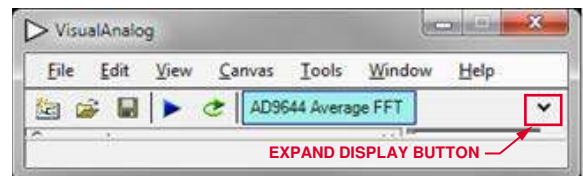
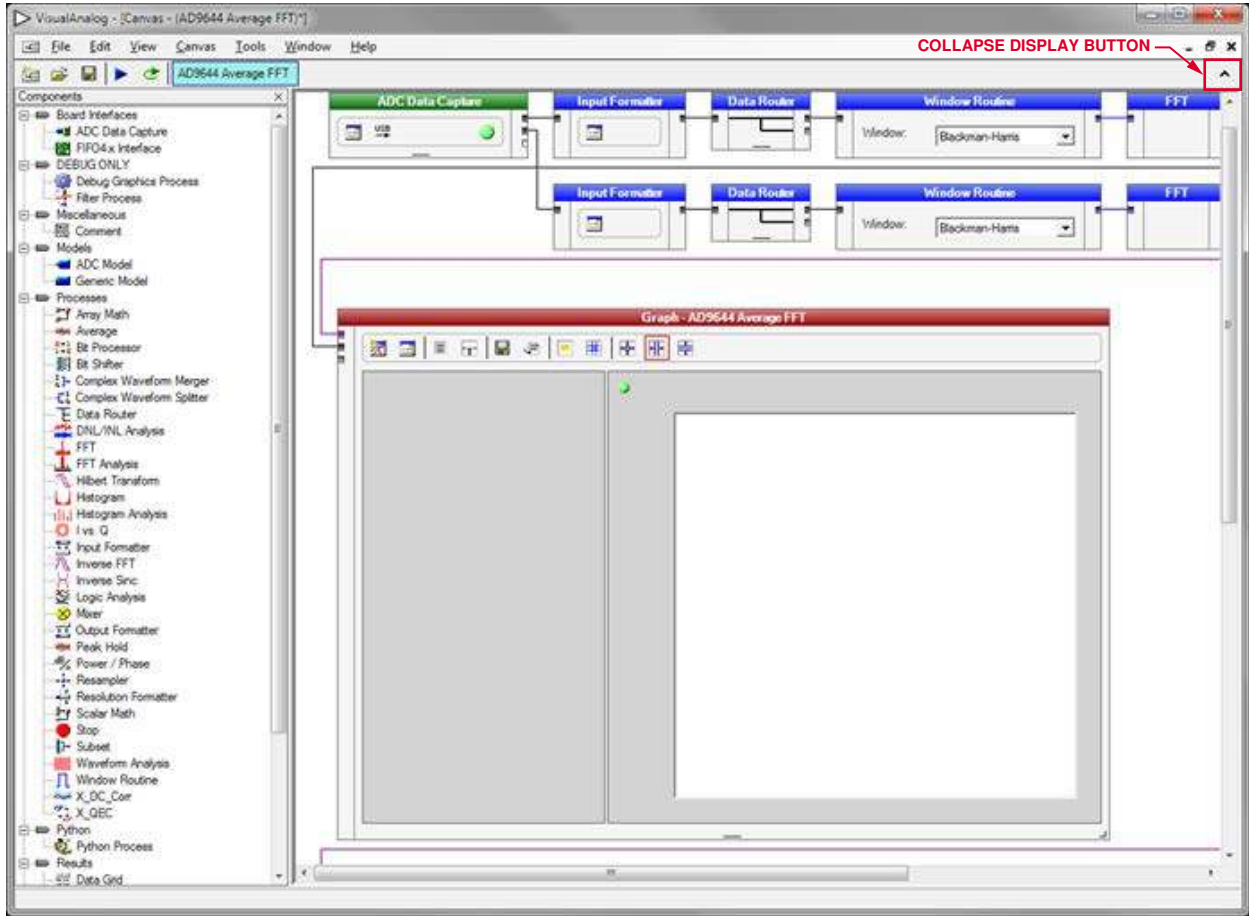

Figure 6. VisualAnalog Window Toolbar, Collapsed Display
Figure 7. VisualAnalog, Main Window
3. To change features to settings other than the default settings, click the **Expand Display** button (see Figure 6) to view the full window (shown in Figure 7). Detailed instructions for changing the features and capture settings can be found in the AN-905 Application Note, VisualAnalog Converter Evaluation Tool Version 1.0 User Manual. After the changes are made to the capture settings, click the **Collapse Display** button (see Figure 7) to minimize the window (shown in Figure 6).